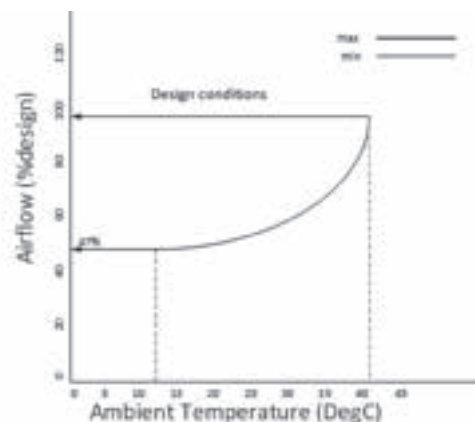

Figure 4. Required airflow and static pressure under different ambient temperatures.
- **Airflow requirement:** Required airflow and static pressure are obtained from different ambient temperatures from detailed simulation of the ACHE's design using actual design software. Typical results are shown in Figure 4.